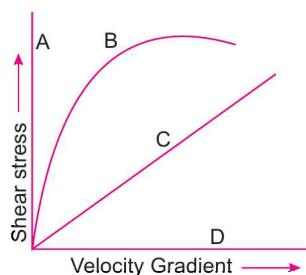

Fig. 1
- 107.** Four curves are shown in Fig. 1 with velocity
- 108.** Curve B in Fig. 1 corresponds to
- 109.** Curve C in Fig. 1 corresponds to
- 110.** Curve D in Fig. 1 corresponds to